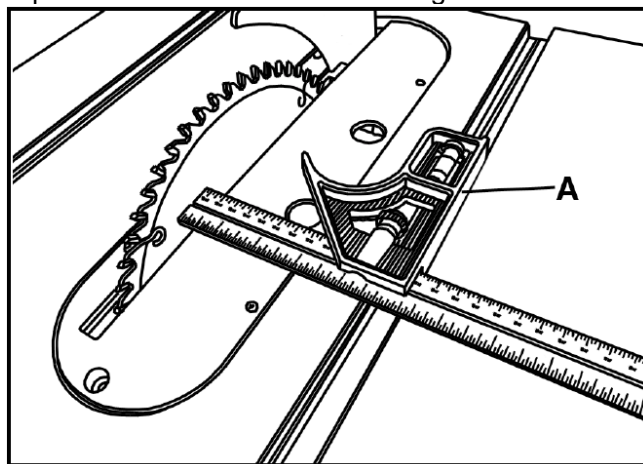

Fig.24
1,The table T-slot must be aligned parallel with the blade. Using a combination square (A) as **Fig.24**, measure the distance from the back edge of the blade to the table T-slot. Pivot blade forward 180° and remeasure the distance using the exact same point on the blade. The difference between both measurements must be less than 0.2mm.